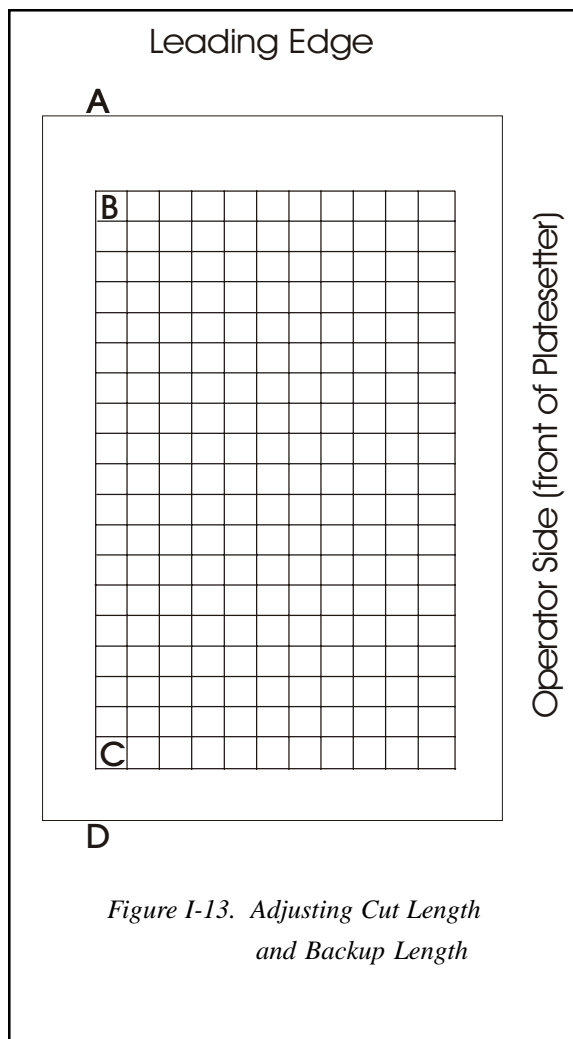

Figure I-13. Adjusting Cut Length and Backup Length
1. Measure the distance between points C and D (see Figure I-13).
1. Measure the distance between points A and B (see Figure I-13).